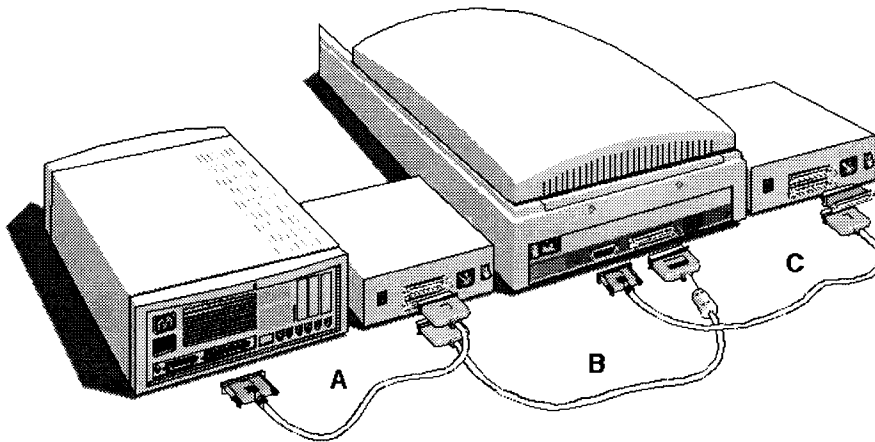

Fig. 3.3 Connecting the Model GS-700 to a Macintosh computer which is also connected to other SCSI devices.
2. Connect the 50-pin end of the SCSI cable (cable B) that is already connected to another device to the 50-pin SCSI port of the densitometer (Figure 3.3).